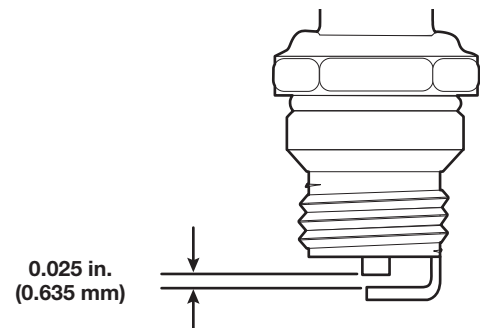

Fig. 39
4. Use a feeler gauge to set the air gap at **0.025 in. (0.635 mm)** (Fig. 39).